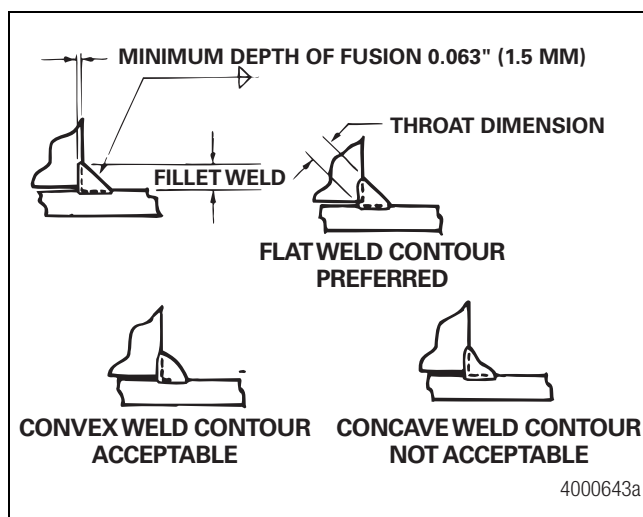

Figure 3.24
7. Verify that each bracket weld has a flat or slightly convex contour. A concave contour is not allowed because it reduces the throat dimension of the weld. Figure 3.24.